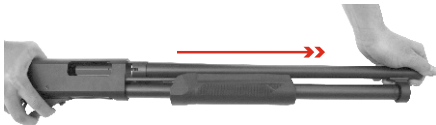

Fig.18
2. Remove the barrel by pulling it out of the action (Fig.18).